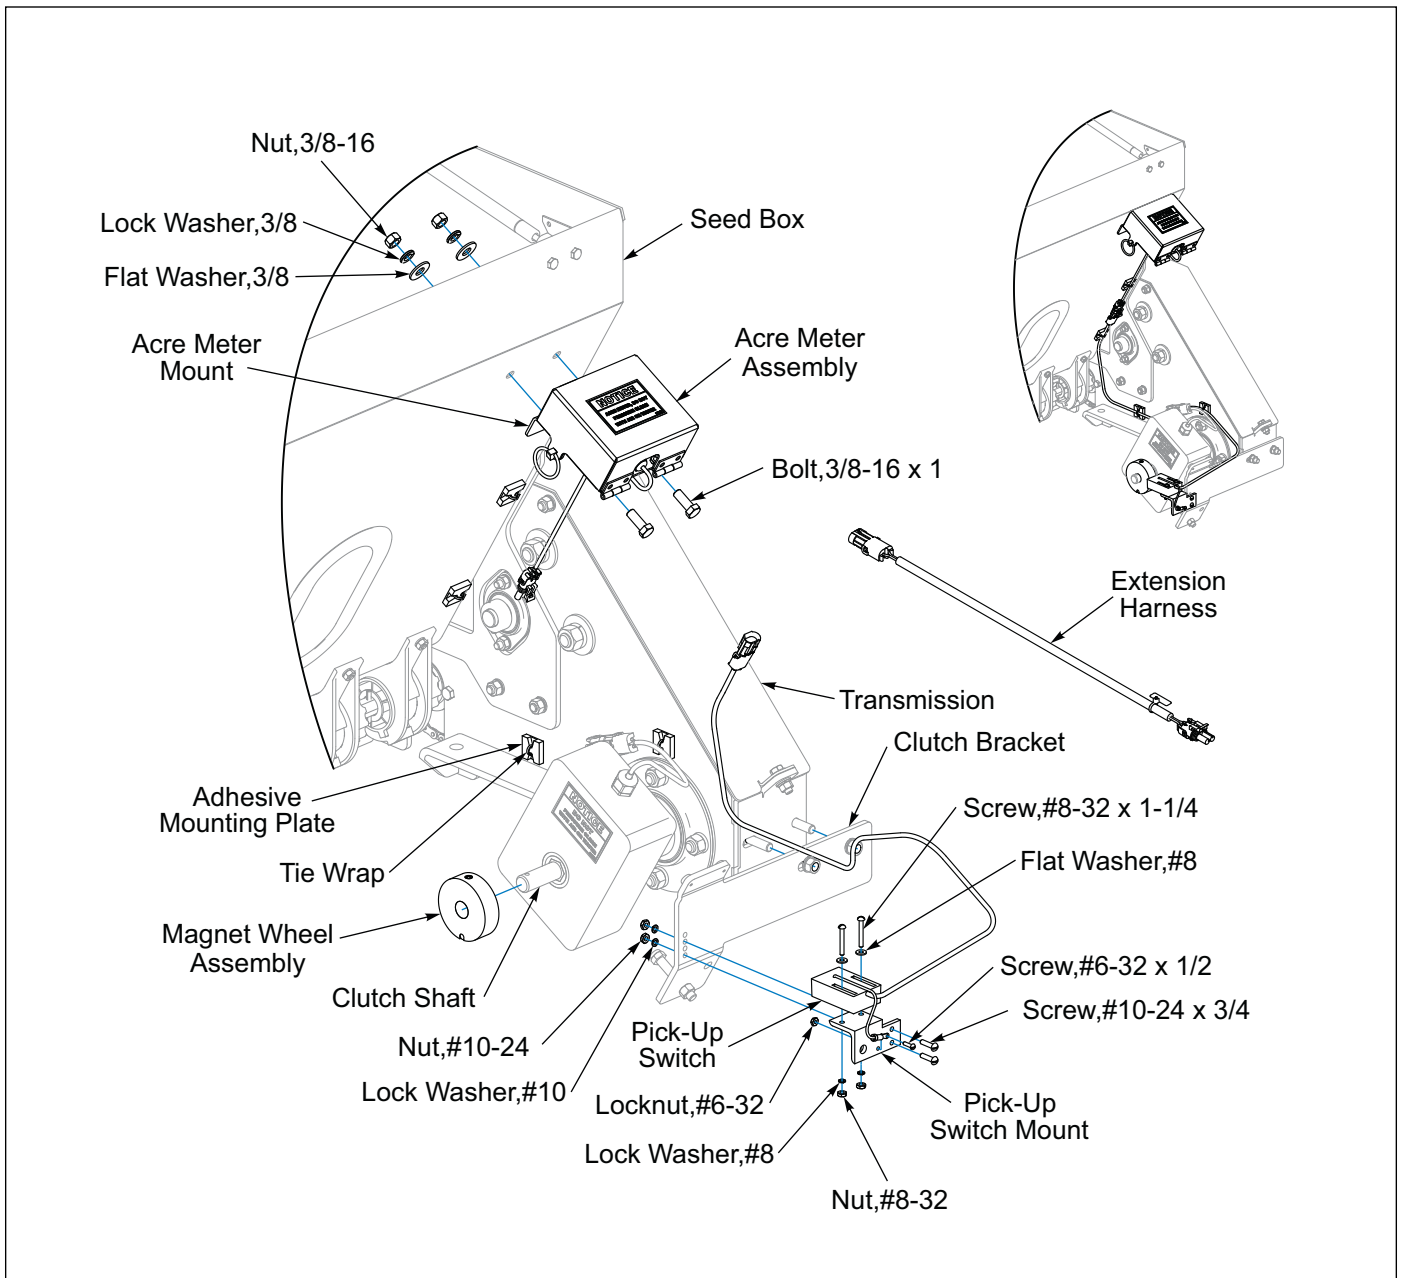

Figure 2-25: Electronic Acre Meter Kit
2. Attach the Acre Meter Bracket to the Seed Box with 3/8-16 x 1 Bolts, Lock Washers and Nuts. **See Figure 2-25.**